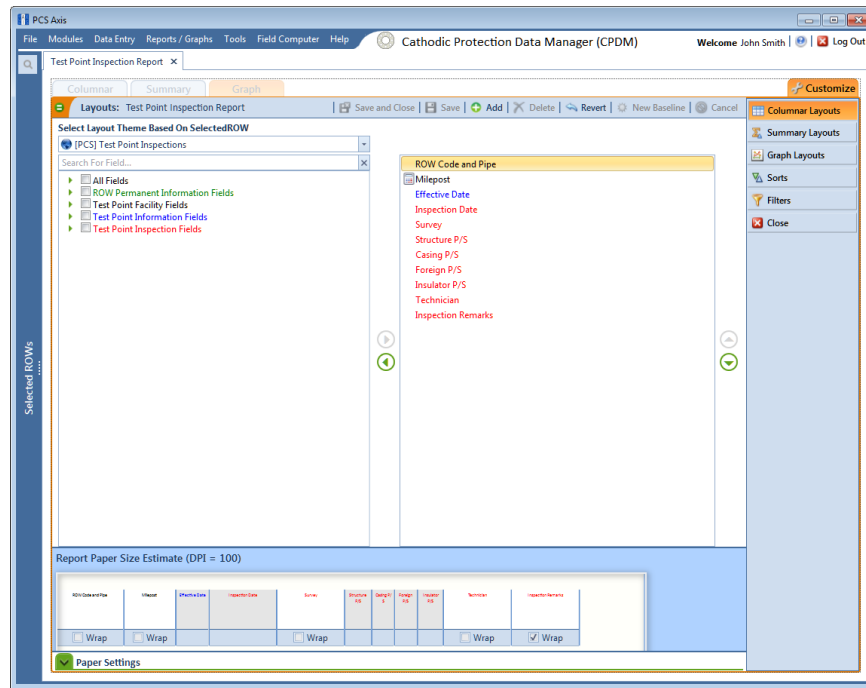

Figure 16-31. Report Layouts
- 3 Click the **Customize** tab  and then the **Columnar Layouts** button  to open the *Layouts* page (Figure 16-31).